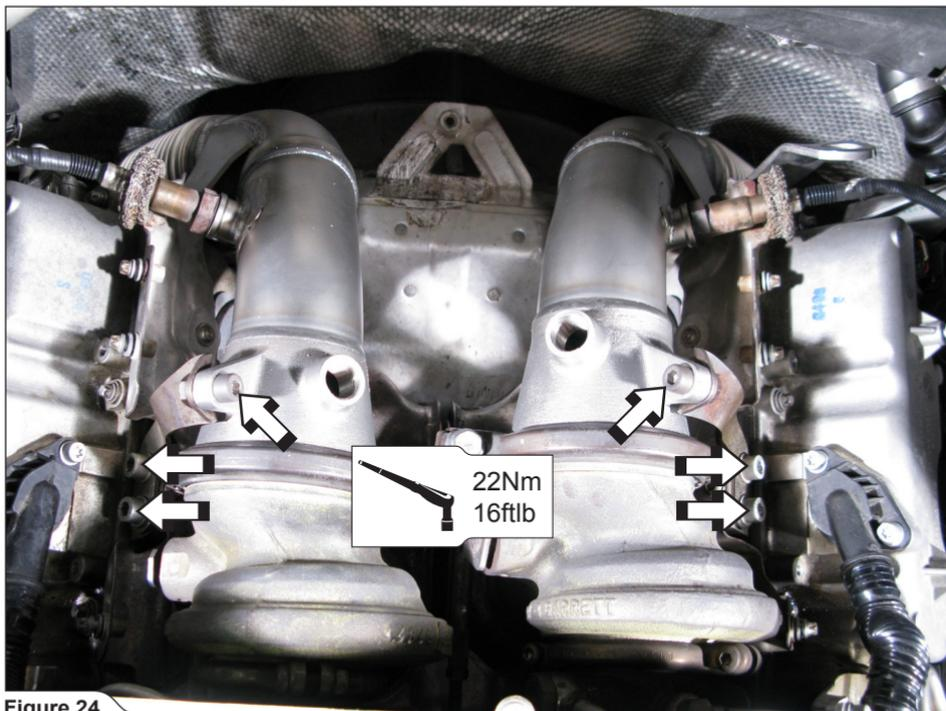

Figure 24
4. For optional Down Pipes only: tighten all marked bracket bolts to the specified torque (Figure 24).